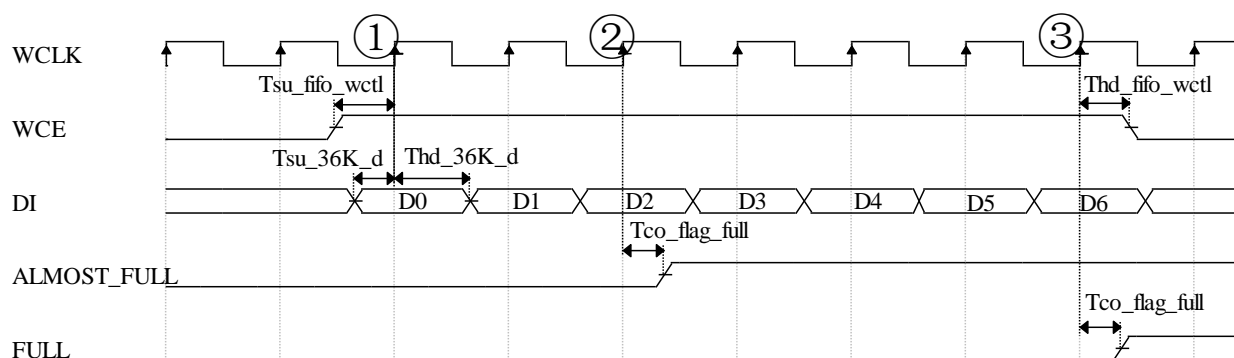

Figure 7-5 Write Timing to Almost Full Asynchronous FIFO
When the FIFO is almost full and the difference between the write and read pointers equals to the set value, the ALMOST_FULL flag is set to 1 at the WCLK rising edge (rising edge ② in Figure 7-5), according to the configuration of ALMOST_FULL_OFFSET. When the FIFO is full (rising edge ③ in Figure 7-5), the write pointer will not increase, halting any further write operations, and the FULL signal is immediately set to 1.
Figure 7-5 shows the write timing to almost full asynchronous FIFO: